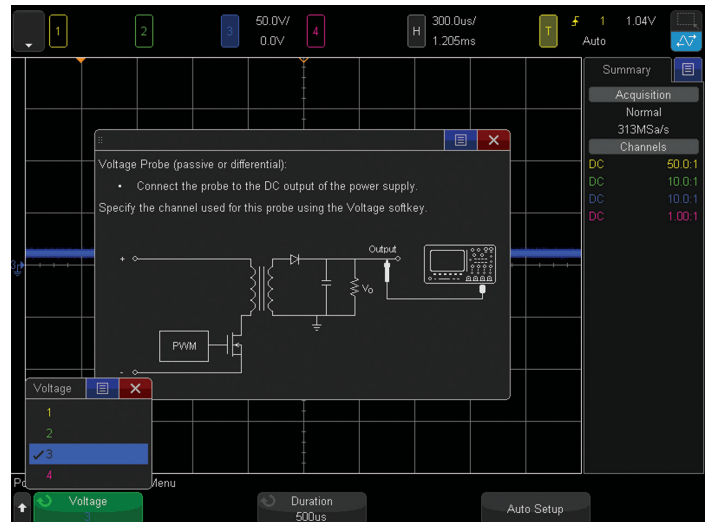

Figure 27. Output ripple measurement connections diagram.
5. Connect a standard 10:1 passive voltage probe between the scope's channel-3 input to the DC output signal and ground as illustrated in the on-screen connections diagram shown in Figure 27. If using Keysight's SMPS training kit, connect the 10:1 passive probe from channel-3 to TP5 (probe tip grabber) and TP6 (ground).